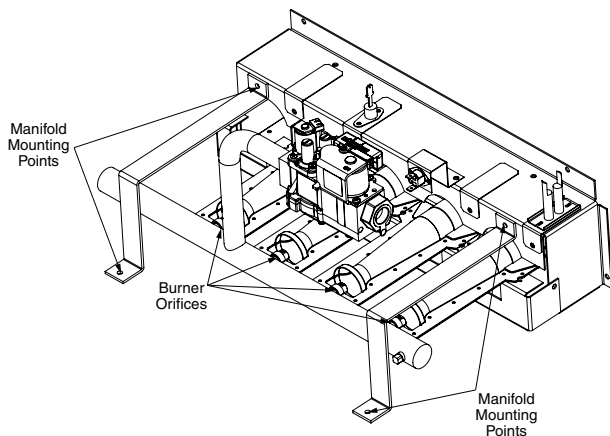

Figure 1. Typical Manifold Assembly
5. Move the appliance gas valve lever/knob to the OFF position (see Figure 1).
5. Remove the four fasteners that secure the gas manifold to the burner box (see Figure 1). Carefully remove the gas manifold assembly from the burner box. Note that the gas manifold assembly consists of the gas valve, the gas manifold, and the orifices.